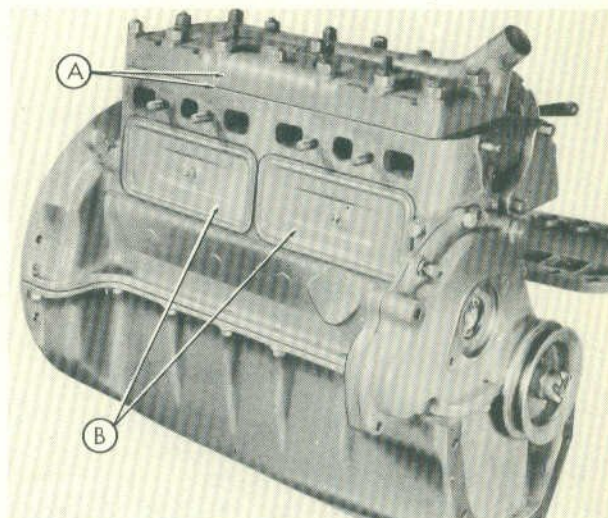

Fig. 1
- Step 1—Remove the head and gasket (A-Figure 1).
- Step 2—Remove the two valve covers and gaskets (B-Figure 1).